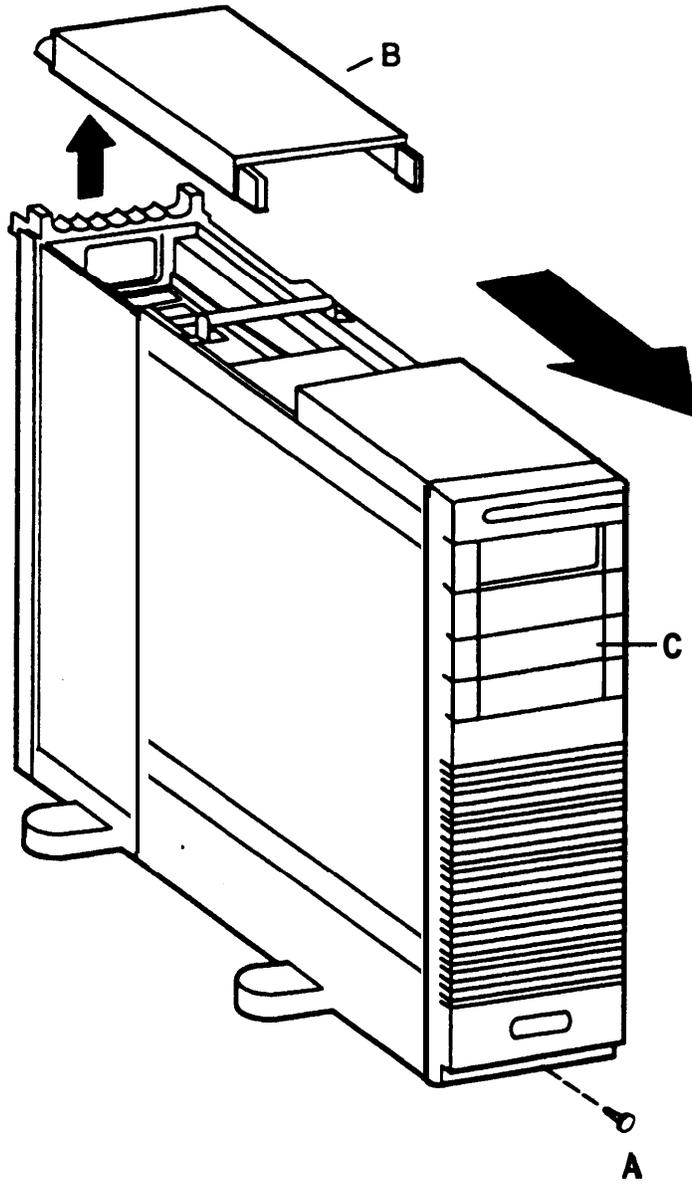

Figure 2-6. 6386E/33 WGS Removing Outside Cover
4. Loosen the cover-securing screw **(A)** as shown in Figure 2-6.